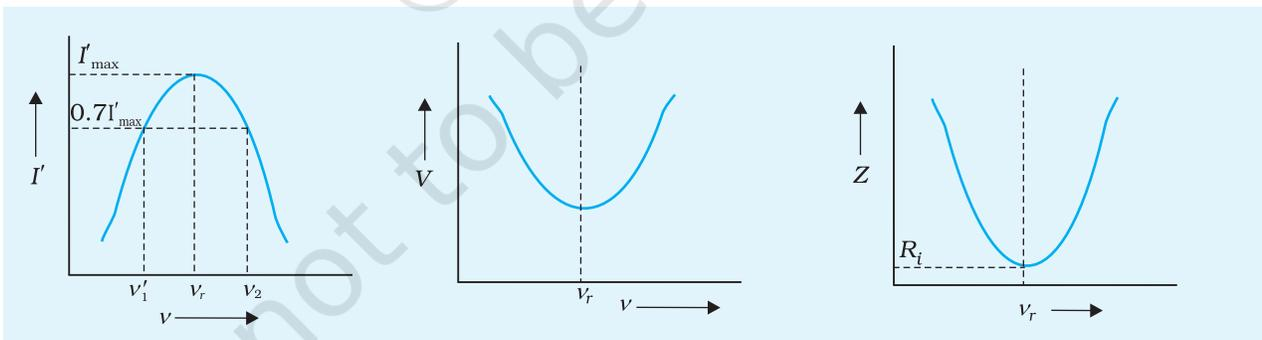

Fig. P 7.11 The nature of (a) current I' vs frequency (b) voltage V across LC combination vs frequency, (c) impedance Z of LC combination versus frequency.
4. *Half points:* Find two frequencies ν_1 and ν_2 on I - ν graph Fig. P 7.11 (a) where the current has its value equal to 70% of the current at resonance. These frequencies are known as half points, because the power consumed in the circuit at these frequencies is half the power consumed at resonance subject to condition that constant ac potential difference is applied to the resonance circuit. Find the difference $\nu_2 - \nu_1$.